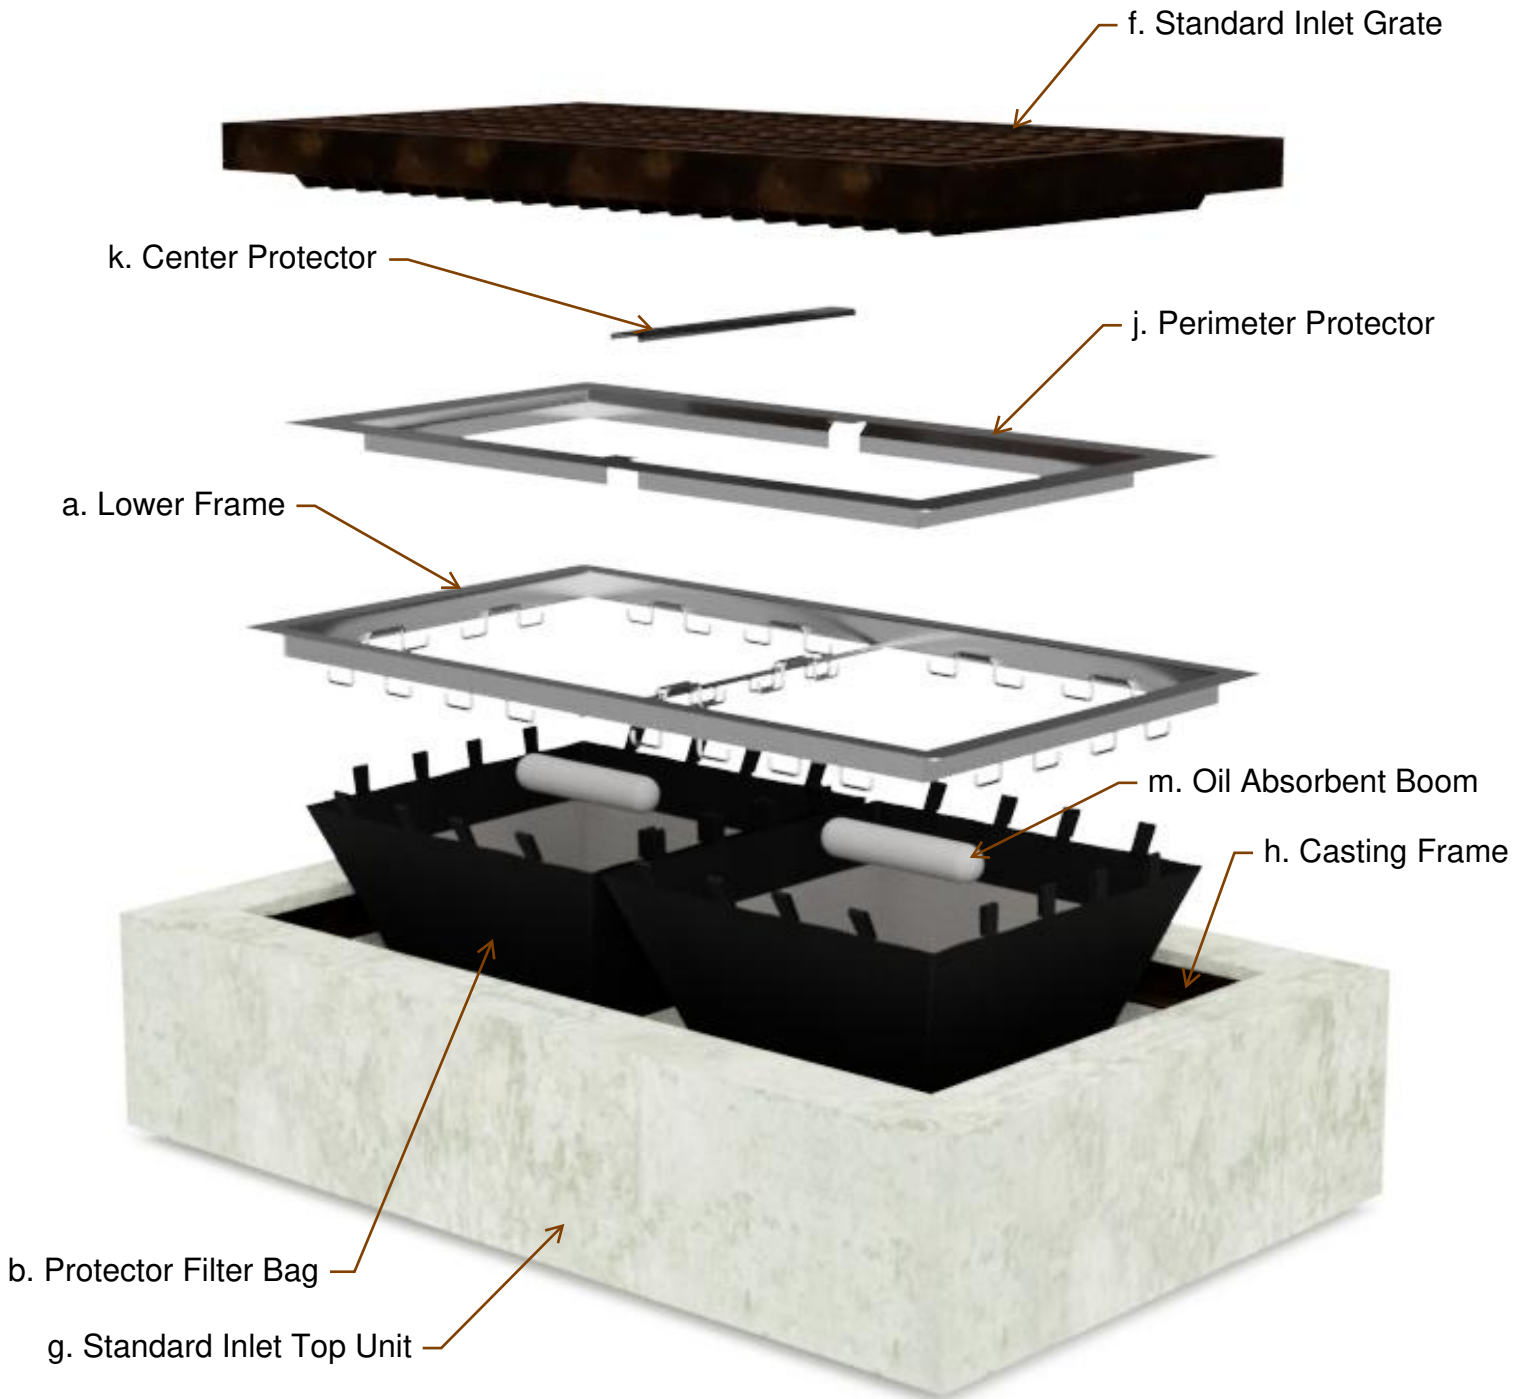

Figure 2: Exploded View
2.0 Installation into Standard Grated Catch Basin Drainage Structures (see Figure 2):